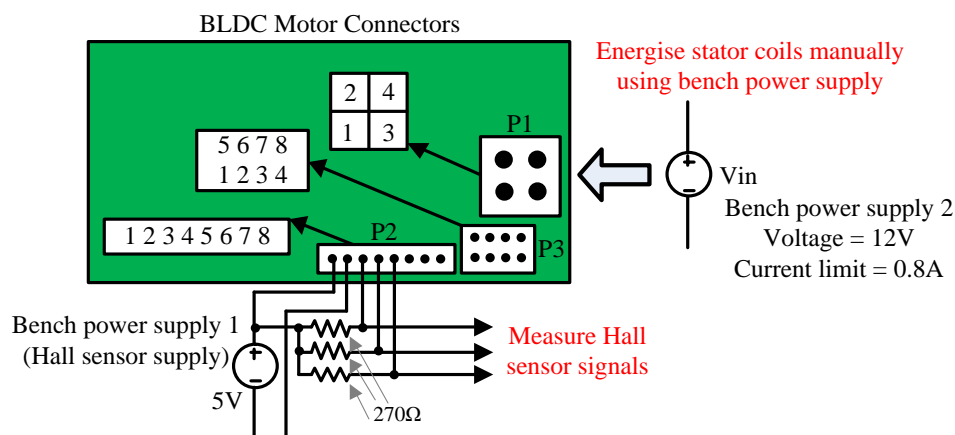
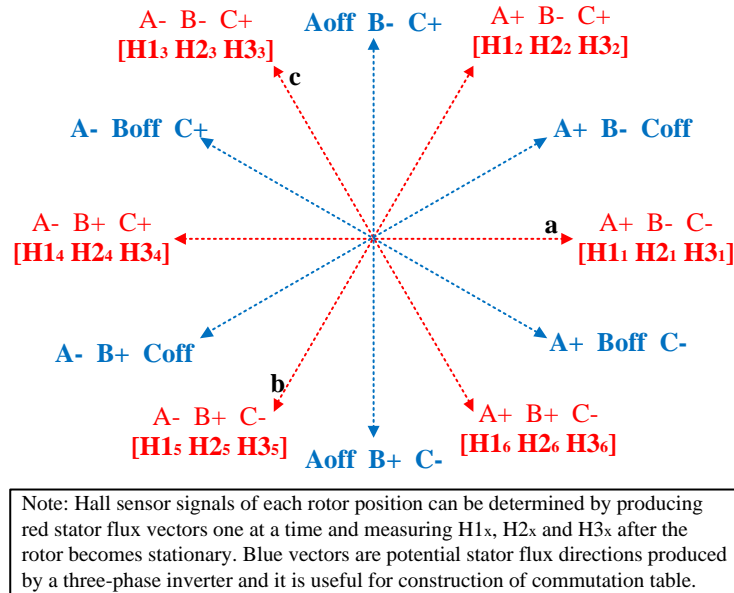

Figure 2. Energising stator winding manually using bench power supply to find out relationship between rotor position and Hall sensor signals.
Figure A4. BLDC motor stator flux vectors.
- Referring to Fig. 2, Figure A4 and Table A1, energise the stator winding manually by using a bench power supply to align the rotor to a specific angle and determine the Hall sensor signals (H1, H2 and H3). Refer to steps 1 – 4 in appendix A.
For each rotor position, only one out of the six possible connections between three-phase motor terminals and electronic commutator outputs is correct for both direction of rotation while the remaining 5 are wrong. Hence, the commutation table which maps the states of Hall sensor signals (rotor position) to the states of electronic commutator is crucial. By referring to Figure A4 and performing experimental testing on BLDC motor, the commutation table can be constructed.
- Step 4:** Turn off the DC power supply and repeat experiment (step 2-4) to determine all the 6 states of Hall sensor signals for 6 different rotor positions aligned with red stator flux vectors depicted in Figure A4.